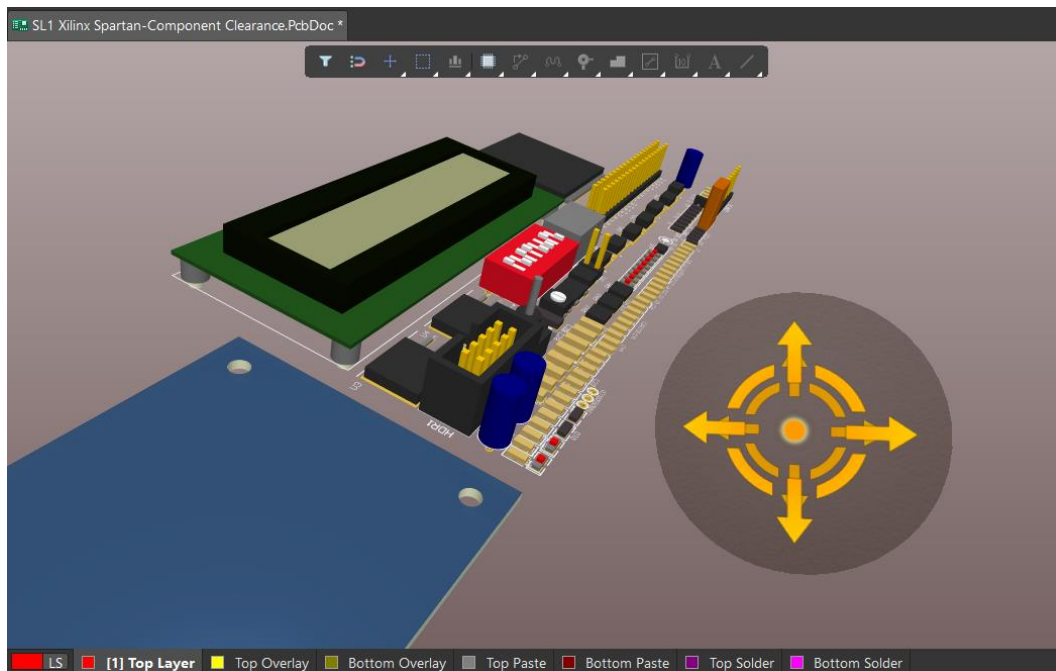

Figure 2. Navigation Orb used to navigate in 3 dimensions
13. Press and hold the **Shift** key. A golden Navigation ball will appear allowing you to move the board in 3D, Figure 2.